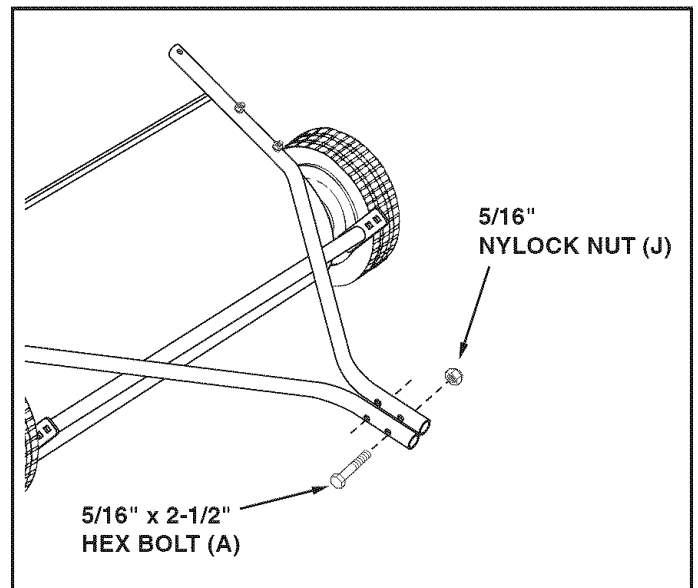

FIGURE 6
STEP 6: (SEE FIGURE 6)
- Fasten the hitch tubes together using two 5/16" x 2-1/2" hex bolts (A) and 5/16" nylock nuts (J). **Do not tighten yet.**